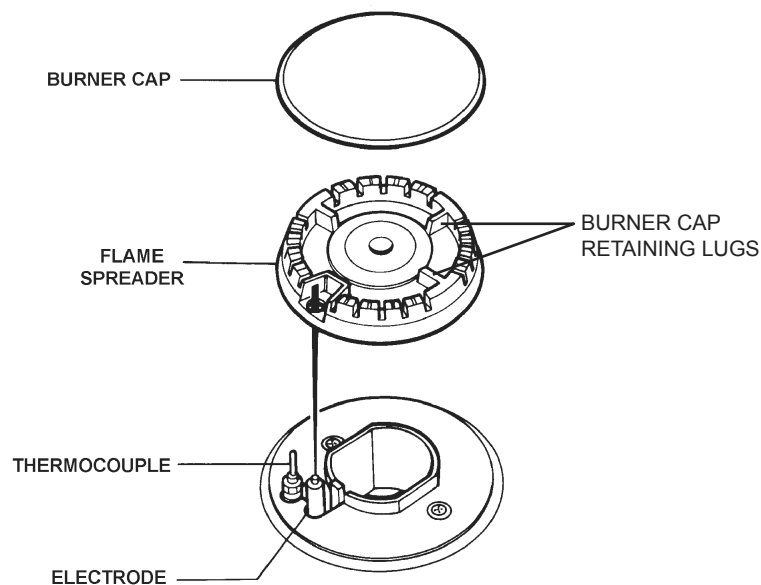

Fig. 5.1
- ⚠ After cleaning, be sure all parts are dry. When fitting the burner cap and burner head, make sure that the hole in the burner head is correctly located over the ignition electrode (see Fig. 5.1), and that the burner cap is sitting correctly on the burner head.